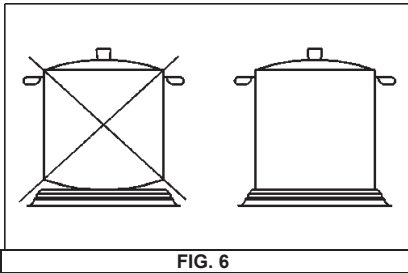

FIG. 6
- To always use pans with flat and very thick bottoms (see fig. 6).
Mixed hot plates may be equipped with a normal or rapid electric plate. It is controlled by switches with various positions (see fig. 6) and is switched on by turning the knob to the required setting. A diagram is screen-printed above each knob on the front panel. This diagram indicates to which electric plate the knob in question corresponds (see fig. 6). A red warning light will come on to indicate that the plate is operating. A purely indicative regulation table for the normal electric plate is given below.